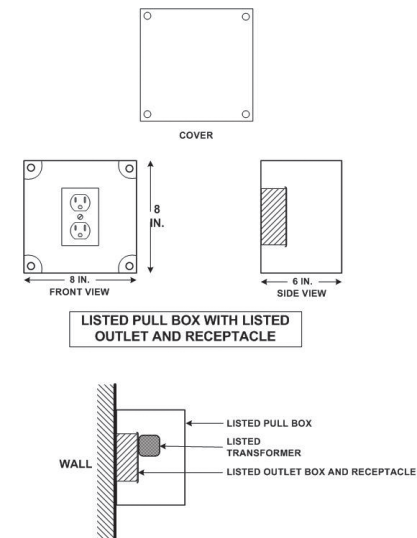

FIGURE 4:
- d. Installers shall plug the transformer into the 120VAC receptacle and secure the transformer as shown in Figure 4 above.
- b. Install a Listed 120 VAC receptacle (unswitched AC) mounted in a conventional Listed outlet box as shown in Figure 4.